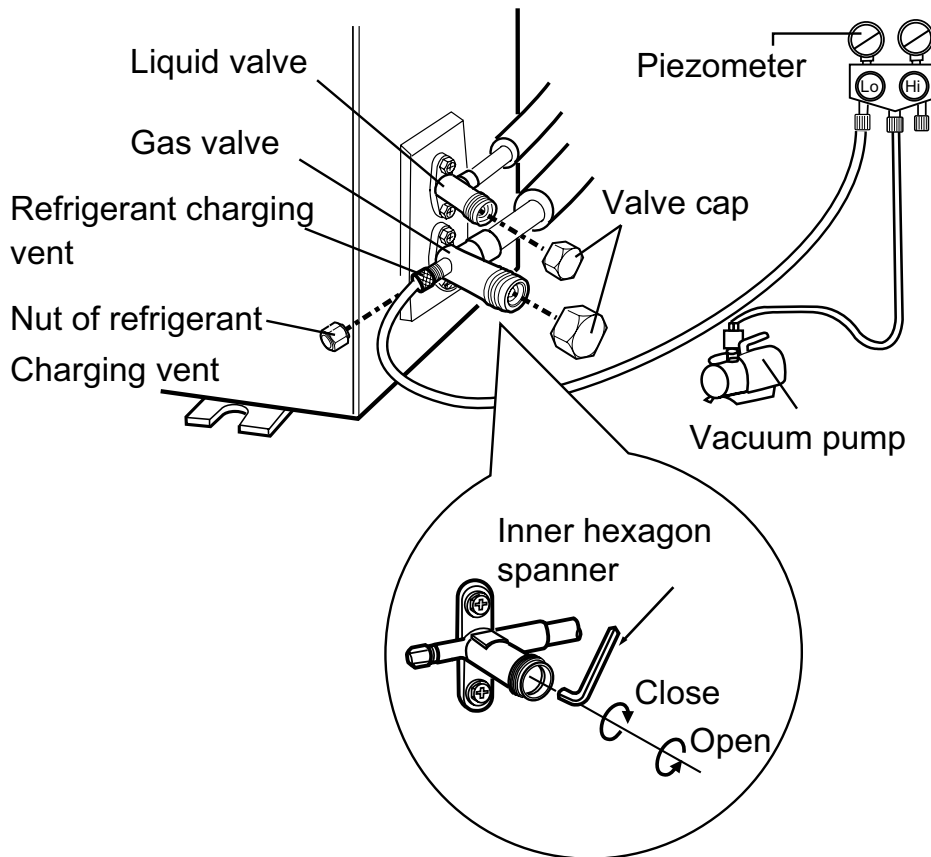

Fig.28
- (1) Remove the valve caps on the liquid valve and gas valve and the nut of refrigerant charging vent.
- (2) Connect the charging hose of piezometer to the refrigerant charging vent of gas valve and then connect the other charging hose to the vacuum pump.
- (3) Open the piezometer completely and operate for 10-15min to check if the pressure of piezometer remains in -0.1MPa.
- (4) Close the vacuum pump and maintain this status for 1-2min to check if the pressure of piezometer remains in -0.1MPa. If the pressure increases, there may be leakage.
- (5) Remove the piezometer, open the valve core of liquid valve and gas valve completely with inner hexagon spanner.
- (6) Tighten the screw caps of valves and refrigerant charging vent.(As shown in Fig.28)